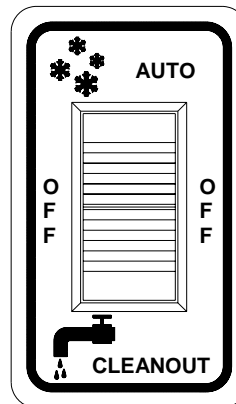

Fig. 39
5. Set the control switch (Fig. 39) to the “**CLEANOUT**” position and let the unit agitate for approximately three to five minutes.